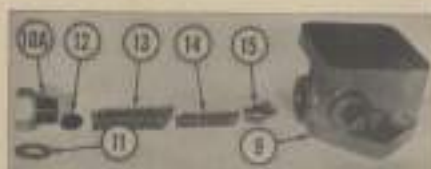

Fig. 17 — Exploded view of Webster power steering pump relief valve assembly shown at 10—Fig. 16.
On D-17 diesel and non-diesel Series III and Series IV models equipped with Webster power steering pump, remove hex plug (10A—Fig. 17) and add or remove shims (12) as necessary to obtain the correct opening pressure.
**24A. OVERHAUL.** After removing the pump as outlined in paragraph 24, scribe a line across cover, gear plate and pump body to aid in re-assembly and proceed as follows: Remove pressure relief valve plug (10A—Fig. 17), "O" ring (11), shims (12), outer spring (13), inner spring (14) and relief valve (15) from pump body. Be careful not to lose or damage any of the shims (12).